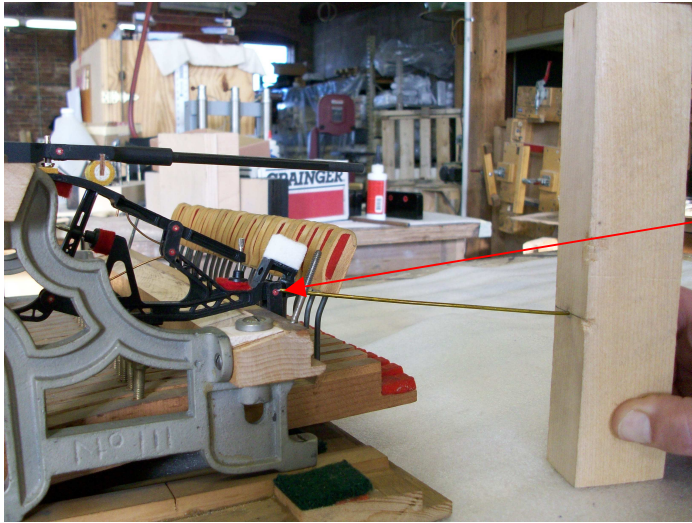

Fig. 13
- a. Many re-builders will re-set the action to the correct action center locations for both the shank and repetition center heights as well as spread. (See Fig. 13 and 14)
Place the gage at the center pin and modify as required. (See Fig. 13 and 14)